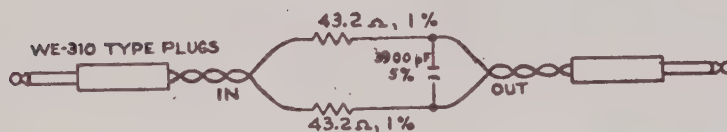

Figure 2: Cable Simulator (1 required)
- h. Cable Simulator, 1 each, per Figure 2